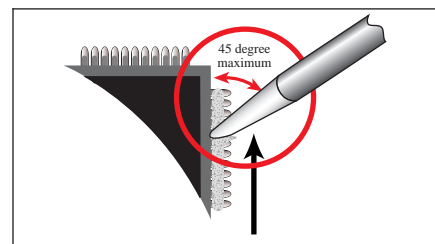

Figure 4 45° or Less
8. Bring the tip down at an angle to the point where the toe of the lead meets the land, so that the edge with solder on it is on the land, but the face is tilted away from the component. The side of the tip will be in contact with the lead. (See Figure 4.)